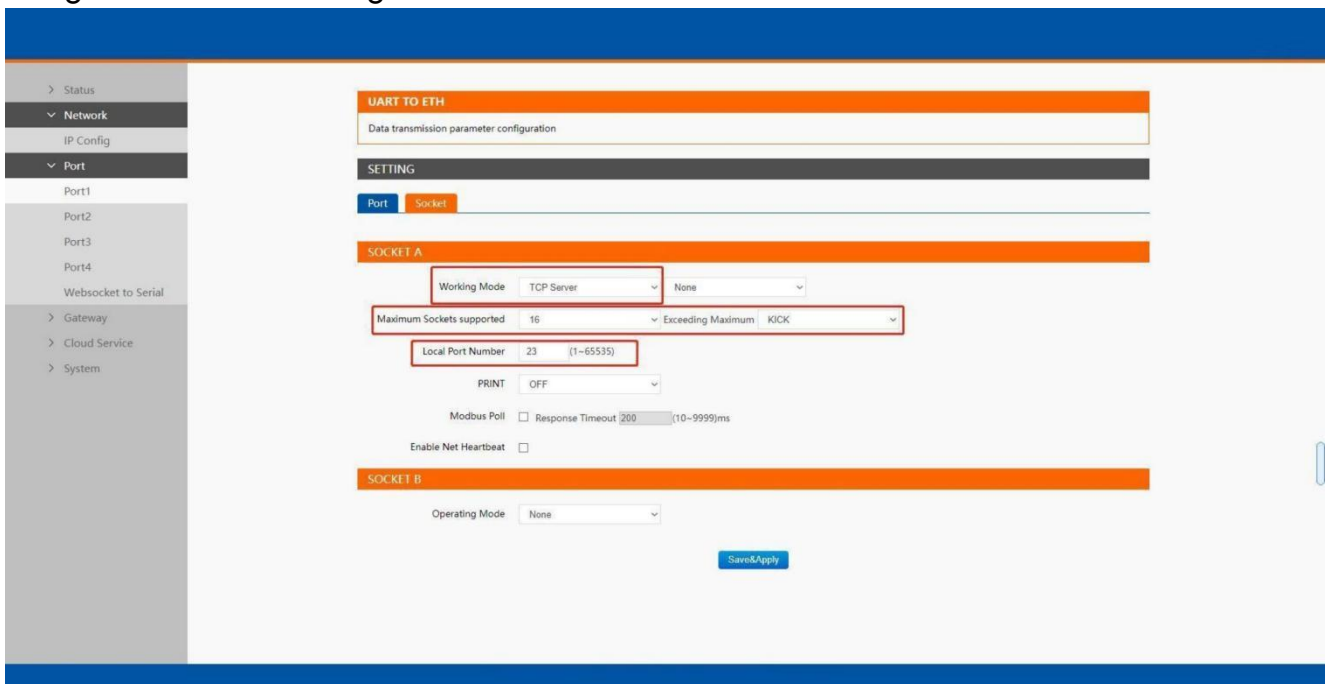

Fig.35 TCP server work mode
The default operation mode of IoT-C104 is the TCP Server mode. Fig.35 shows an example of configuration setting for TCP Server working mode under the Port1 socket tab. You can
configure other serial ports in the same way. There are additional connection settings that can be configured as shown in Fig.35.
1. Click on the "Port1" tab on the menu frame on the left side of Web UI to go to Port1 page as shown in Fig.35.